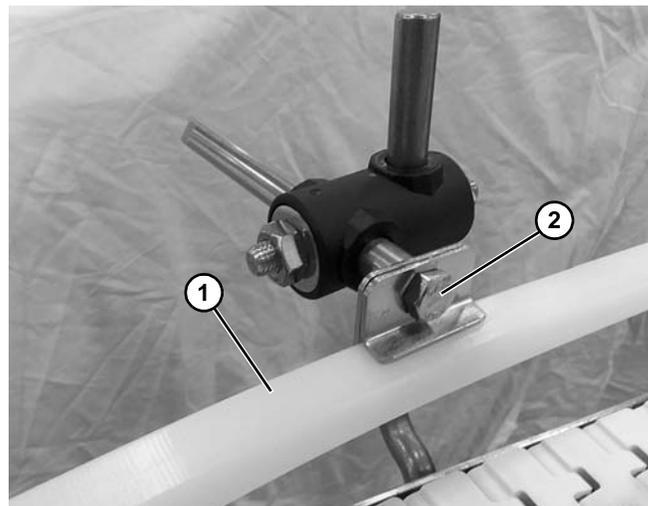

Figure 23
3. Install guide rail (**Figure 23, item 1**) into rail clamp. Tighten fastener to secure (**Figure 23, item 2**).